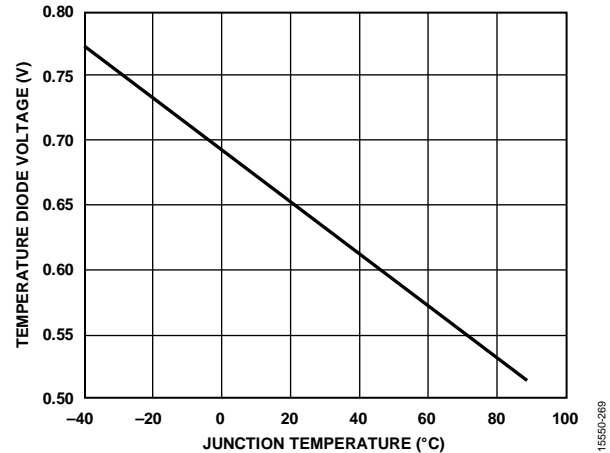

Figure 99. Typical Voltage Response of the 1× Temperature Diode
4. Set Register 0x18E6 to 0x01 to turn on voltage export of the central 1× temperature diode. The typical voltage response of the temperature diode is shown in Figure 99. Although this voltage represents the die temperature, it is recommended to take measurements from a pair of diodes for improved accuracy. Step 5 explains how to enable the 20× diode.